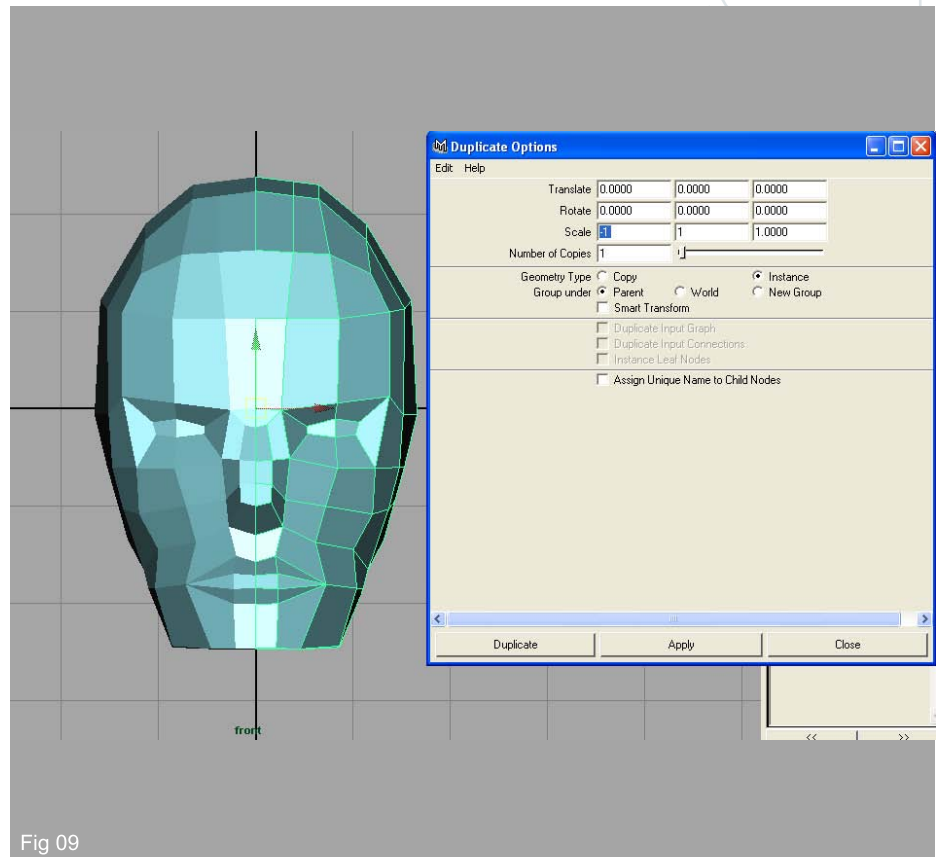

Fig 09
9. Select your halved head and duplicate it (Edit < Duplicate < Options Box). In the duplicate options box set the X Scale to "-1". This will mirror the geometry. Also, change geometry type to "instance". This will make your duplicate follow along with your original model as it's updated. Hit duplicate when you're done and you should have a mirrored version of your head. (Fig 09)